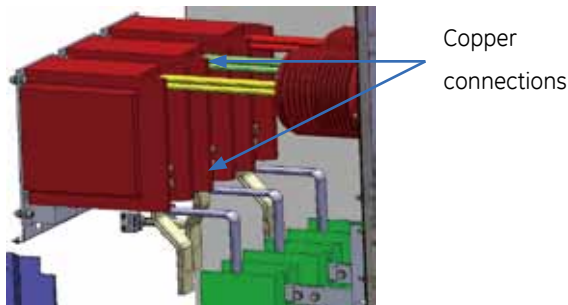

Figure 6/10: Connection busbar between current transformer and earthing switch
- Remove the connection bolt between the current transformer and the vertical copper connections (See figure 6/10)